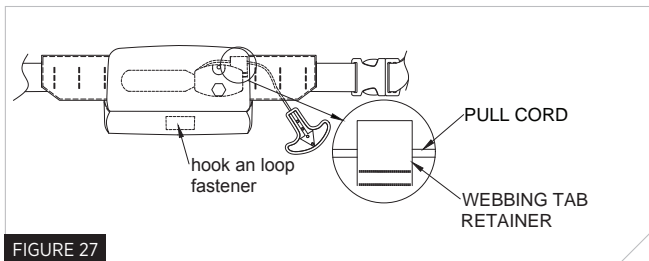

FIGURE 27
8. Fold the foam panel and waist belt towards you to cover the bladder. The inflator cord should be routed through the webbing tab to prevent the pull-tab from dangling (see Fig. 27, page 16). Be careful not to pull the lever during this step or your device will inflate.